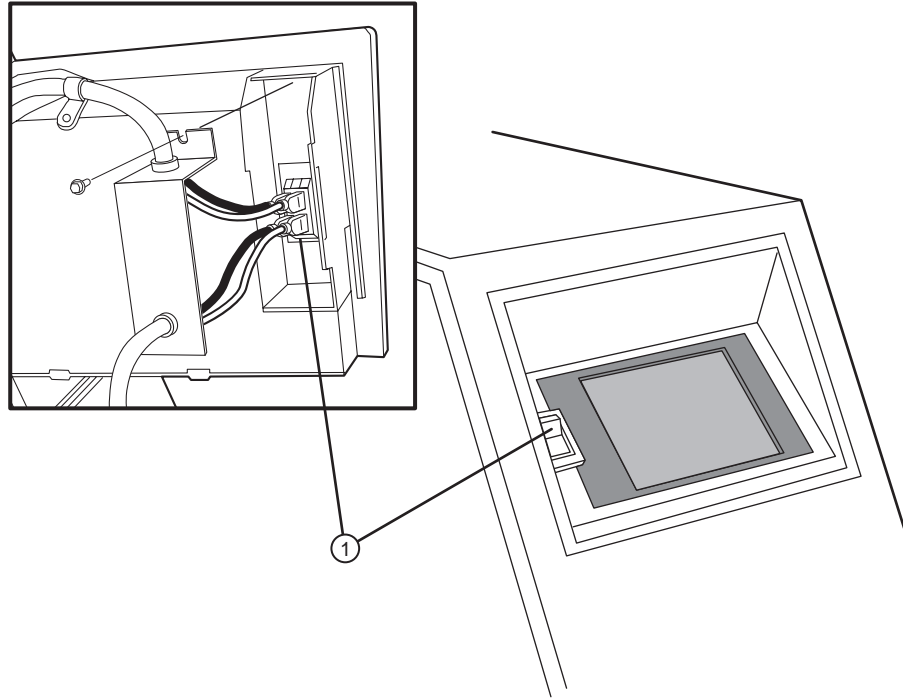

Figure 4-24 Main power switch and plug locations.
2. Loosen the 1/4" hex screw securing the plate over the power-on switch. Refer to Figure 4-24.
①—Main power switch and plugs.
4. Remove the brown and blue wires going to the power switch. Refer to Figure 4-24.